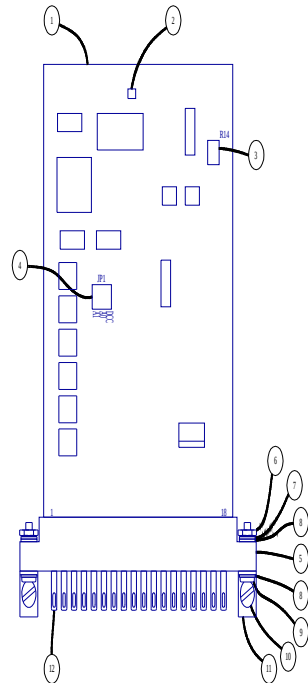

Figure 4-11 GCC Assembly and Parts
First, consider the type of action you want. The GCC provides four actions to protect your crossings. Two push-on jumper plugs are provided to make the action selection. These are the A0 and A1 jumpers identified as item 4 in Figure 4-11 GCC Assembly and Parts. These actions and the jumper positions are shown in Figure 3-3 Crossing Action Selection.
Figure 4-11 below shows how your GCC and related items will look when ready for installation. For your reference, the major items are identified individually. The action plug and its jumpers (item 4), the board activity indicators LED (item 2), and the bell volume control (item 3), are the only board mounted parts of interest to you.
If you are using the GCC 5-volt output (pin 16) to power your LED's, the GCC has to be turned on. Is the GCC activity LED, item 2 in Figure 4-11 GCC Assembly and Parts blinking? If not, then the GCC is not powered up, or there is a short to between pin 16 and one of the GCC common pins (13, A, M, P or V). Disconnect the power, unplug the GCC and test this with an ohmmeter.